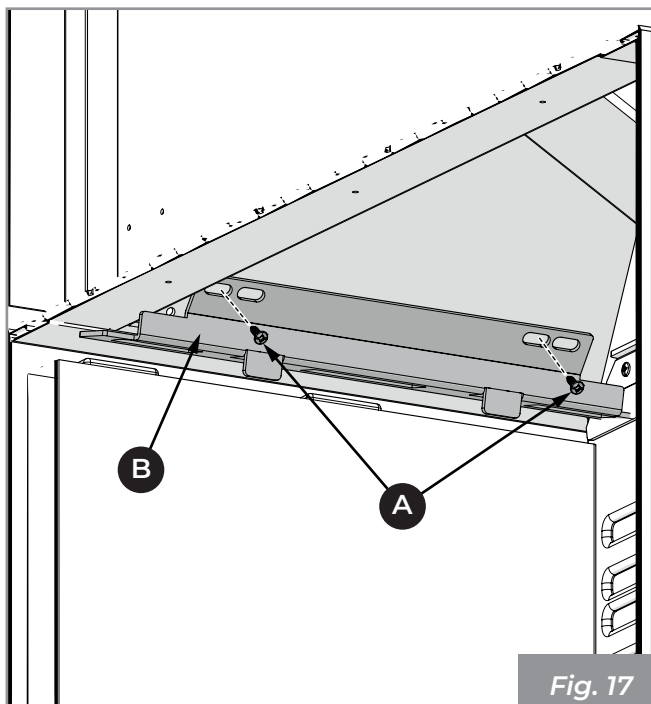

Fig. 17
1) Loosen the screws (A) and remove the refractory block bracket (B) (Fig. 17).